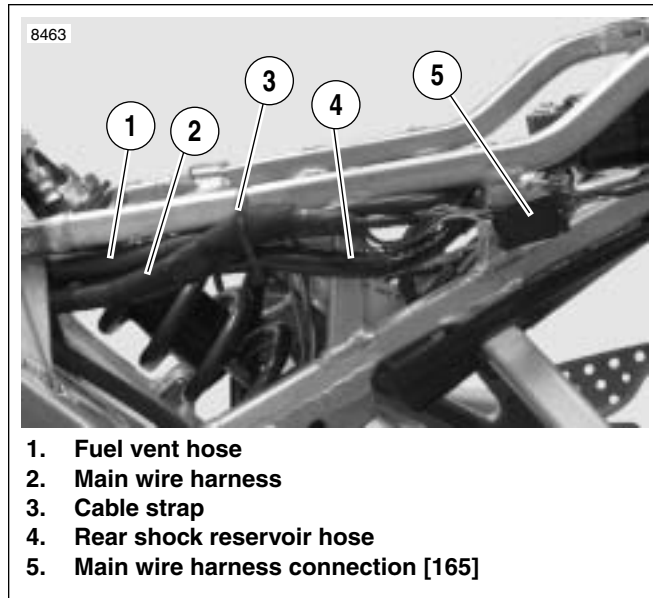

Figure 7-83. Left Side Subframe Hose and Wire Routing
6. See Figure 7-83. Separate exhaust actuator harness connector [165] (2) at main harness.